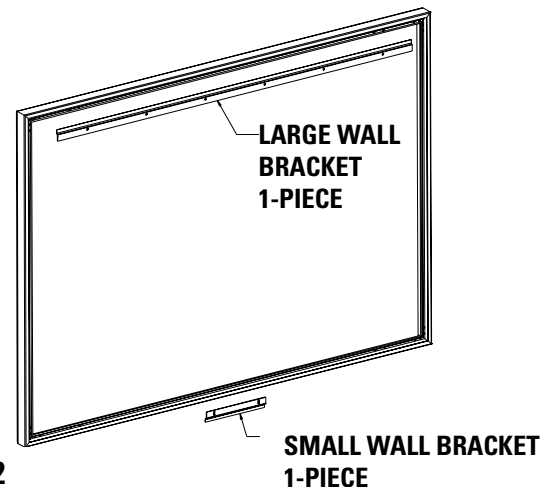

FIGURE 2
1. Secure the large wall bracket to wall studs at the desired height. Make sure the bracket is level. The top of the frame will be 1/8" above the top of the wall bracket when mounted. You will need at least 5/8" clearance above the bracket to hang the screen. Figures 2, 3, and 4 show the proper orientation for the supplied wall brackets.